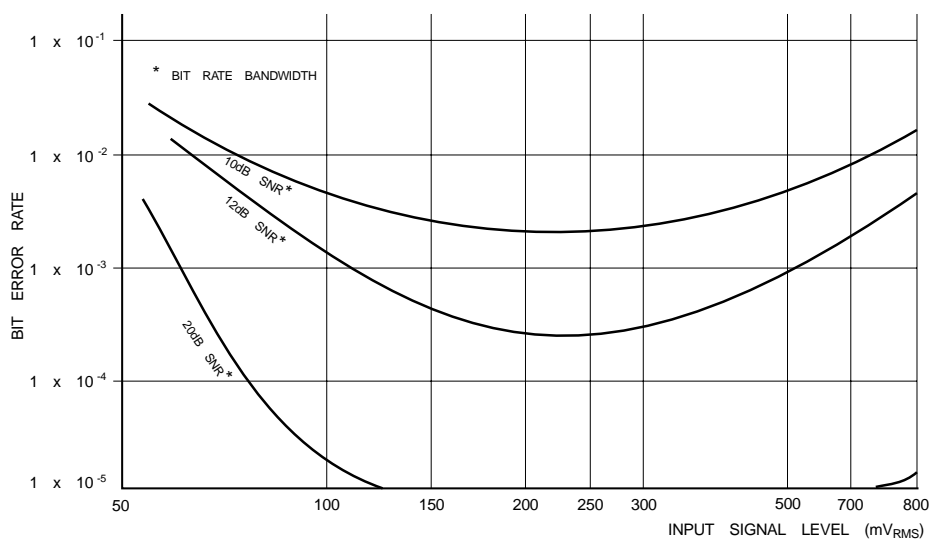

Figure 6: Typical Variation of Bit Error Rate with Input Level
3. See Figure 6: Typical Variation of Bit Error Rate with Input Level